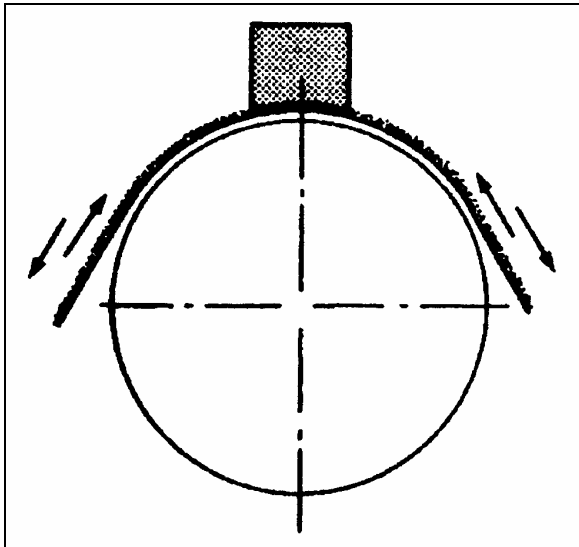

FIGURE 26: PROPER GRINDING TECHNIQUE 22317
- a) Grinding with abrasive cloth medium grit (sandpaper) (grit 60) applied to a part of the commutator by hand. The new brushes installed in their brush holder and pressing against the cloth, one makes oscillate the rotor until complete grinding of the seating faces (Refer to figure 26). It is necessary to avoid raising the cloth under the brushes